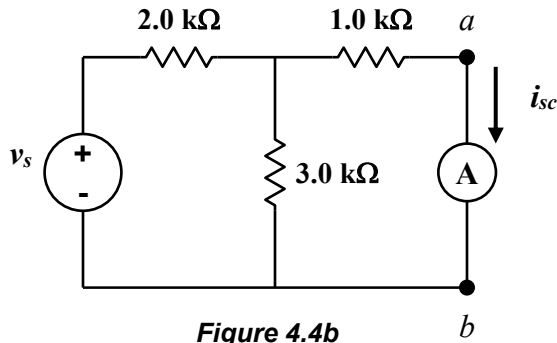

Figure 4.4b
16. Place the ammeter between the output terminals and measure the short-circuit current i_{sc} (**Figure 4.4b**). Record the *measured* i_{sc} in the third column of **Table 4-3**.